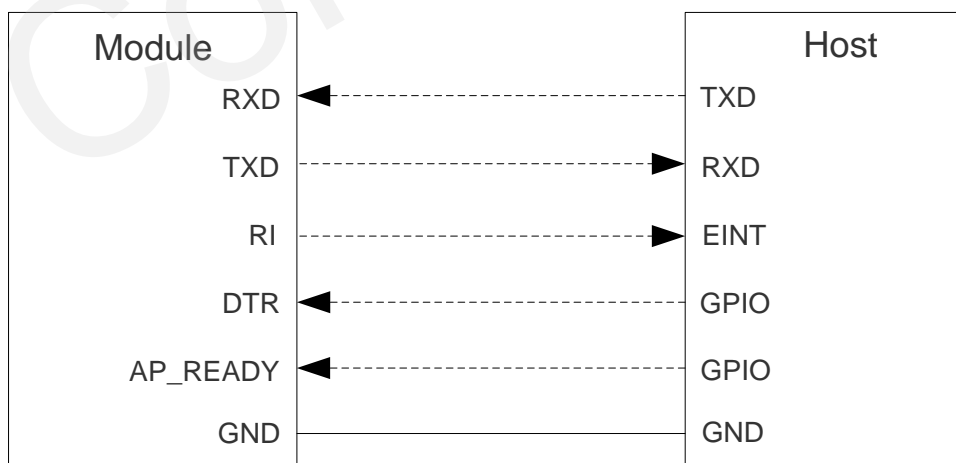

Figure 2: Connection Diagram Based on UART
2. The connection in dotted line in Figure 2 indicates that the level match between the two systems should be paid attention to in actual application. The connection in solid line means they can be connected directly. Same as the lines in the following connection diagrams of this chapter.